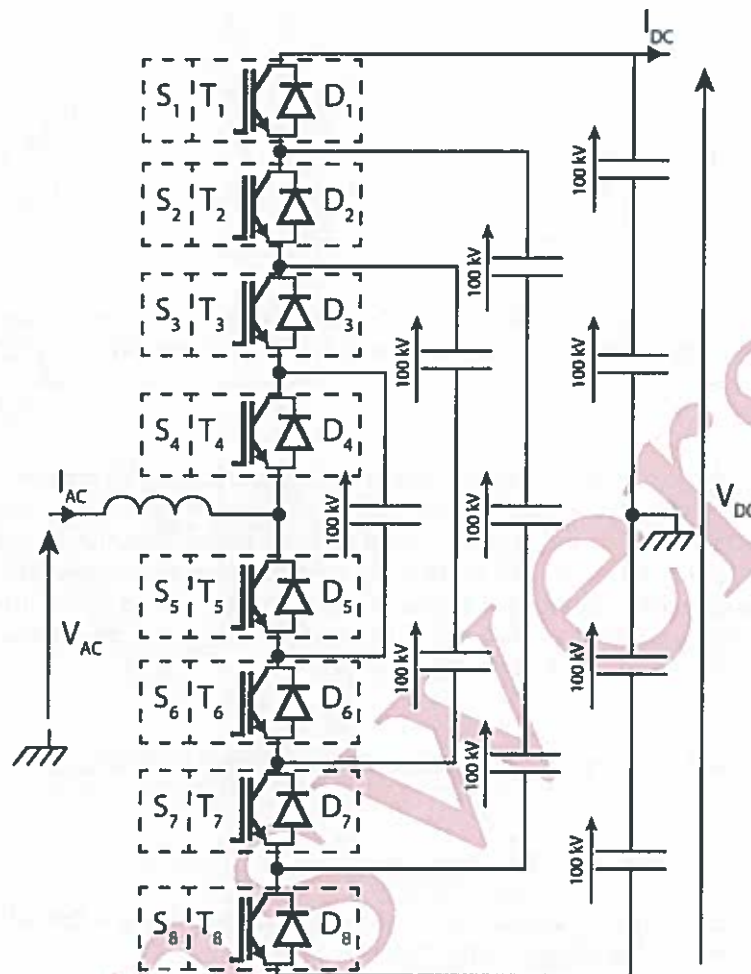

Figure 4.1: Multilevel Flying Capacitor Topology
- b) Using the electrical diagram of the  $\pm 200$  kV DC multilevel Flying Capacitor converter depicted in Figure 4.1, complete the table using the format and example given below in order to answer this following questions: